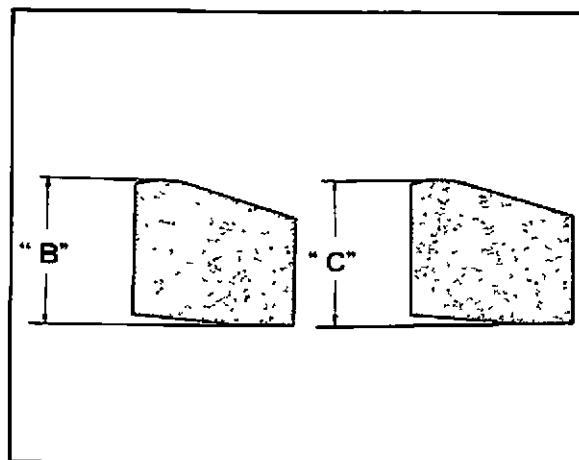

Fig. 6-12 Carbon Shoe Inspection www.cruisercult.com
7. Inspect the carbon shoe for crack, wear and damage. The dimension "B" and "C" shown in Fig. 6-12 should be more than 0,18" and 0,19". If defective, replace it.